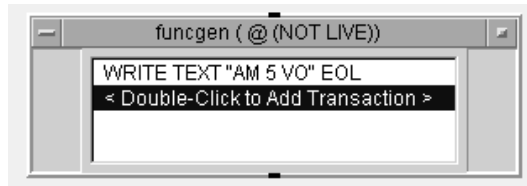

Figure 4.7. A Single-Text-Command I/O Transaction
5. Select WRITE, TEXT, and type “AM 5 VO” with EOL ON; click OK. See Figure 4.7.